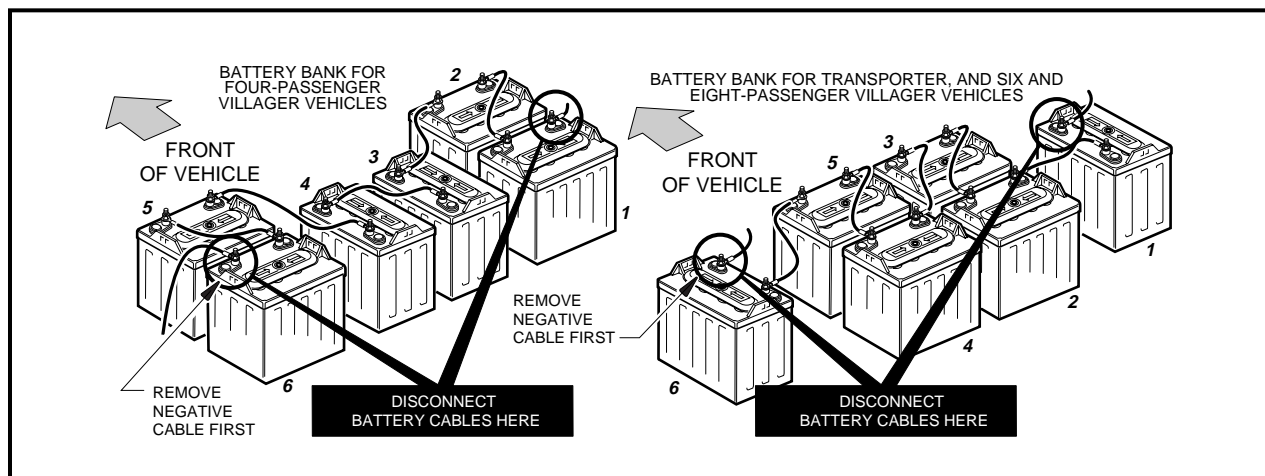

Figure 1 Battery Configurations
- TO AVOID UNINTENTIONALLY STARTING THE VEHICLE, DISCONNECT THE BATTERIES AS SHOWN (**SEE FIGURE 1, PAGE 2**) AND DISCHARGE THE CONTROLLER AS FOLLOWS: